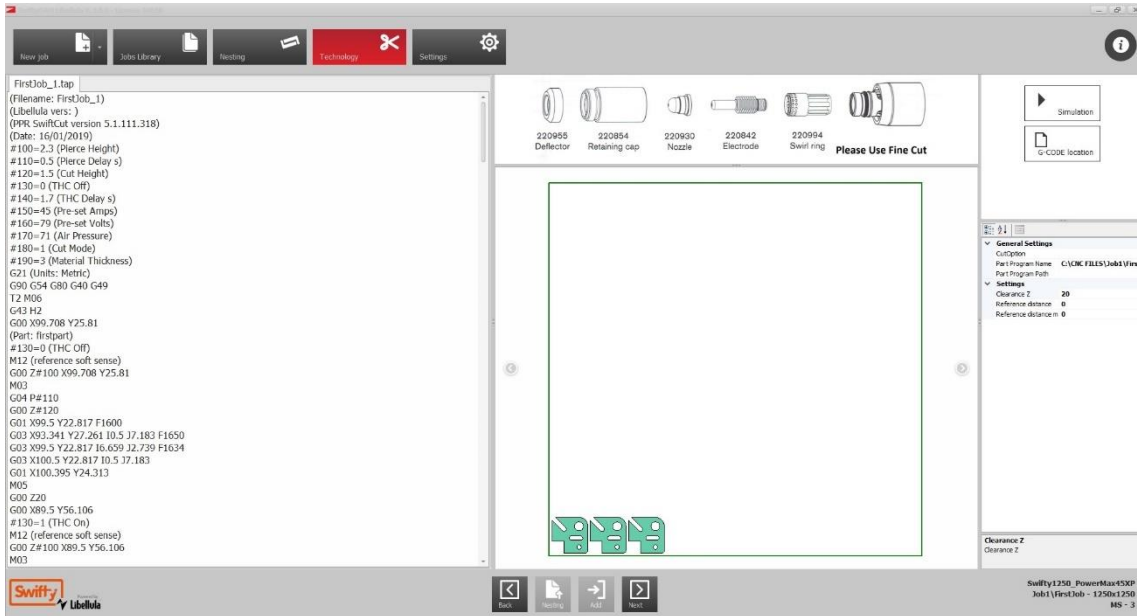

Fig 57 G-Code preview screen
1. At this stage the g-code file to run the machine has been created and saved in the default location 'C:\CNC FILES' within a folder structure referring to the Job name specified earlier. The G-Code screen (Fig 57) shows a preview of the g-code file.